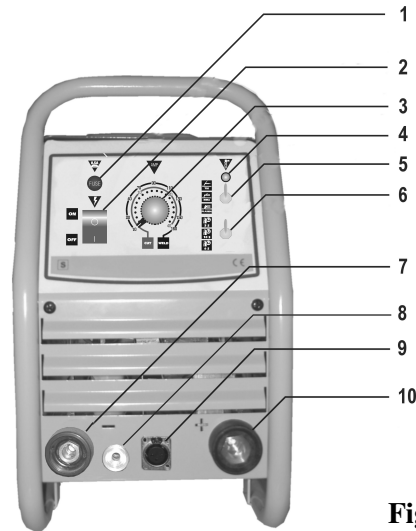
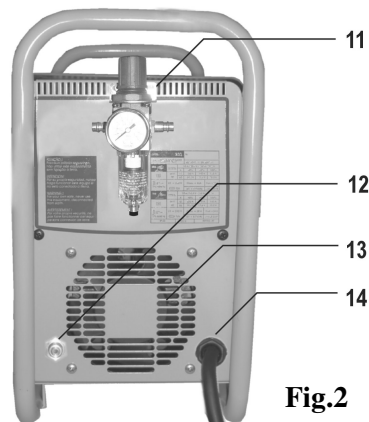

Fig.1
Fig.2
- Make the necessary connections to mains and earth as described in “Installation”. Connect compressed air source to tip located at the machine’s rear panel (12-fig.2). Connect earth clamp to female plug + (positive) (10-fig.1) and plasma torch to female plug - (negative) (7-fig.1). Connect gas (7-fig.1) and 3 pines female plug (9-fig.1).
- Switch on the power source (2-fig.1).
At the beginning, thermal protection signal (4-fig.1) lights on and immediately lights off if there is no default.
- Connect compressed air tube to compressed air connection (12-fig.2), located at the machine’s rear panel. Check if air pressure is correct (see table 1). If air pressure needs to be adjusted, unlock air pressure adjustment valve button, pulling it up and turn it to obtain the correct air pressure. At the end of this operation, push the button down to lock the air pressure adjustment valve.